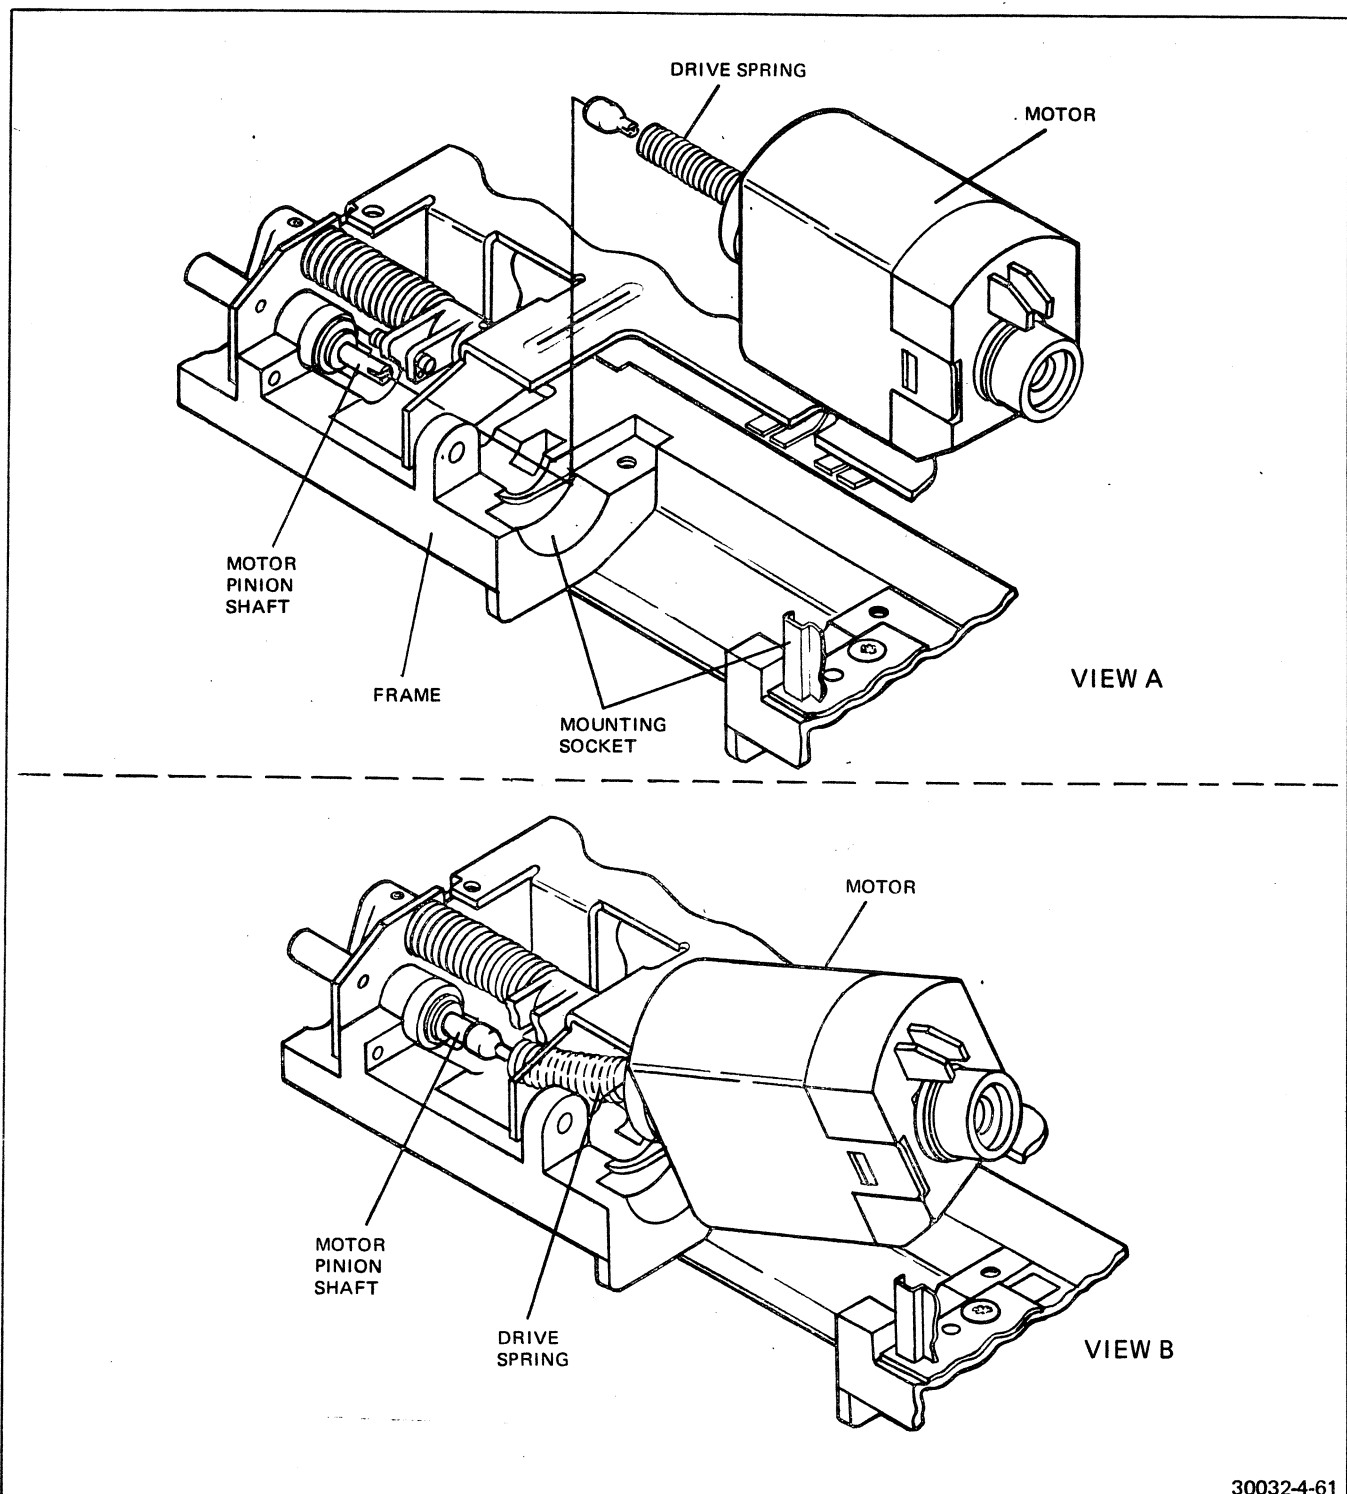

FIGURE 4-61 MOTOR DRIVE SPRING
18. Refer to Figure 4-61. Hold the motor as shown. The motor pinion shaft can be rotated by manually operating the gear train. Rotate the shaft so that the cross tang on the coupling spring will correctly align with the slot in the plastic coupling.